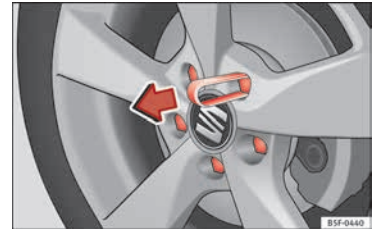

Fig. 71 Wheel: wheel bolts with caps.
- Fit the plastic clip (vehicle tools) over the cap until it clicks into place » **Fig. 71.**